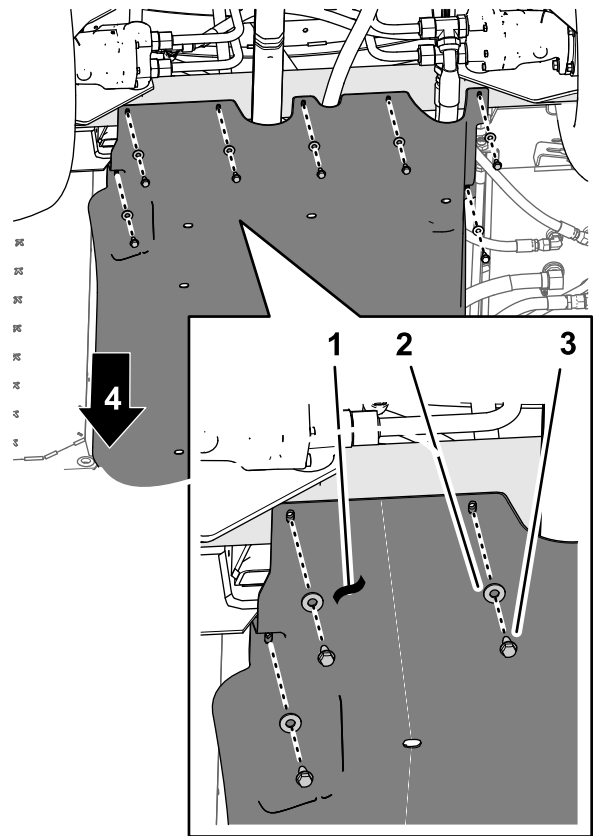
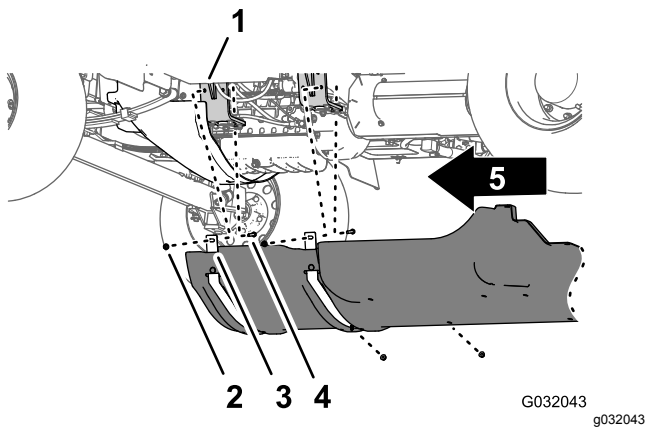

Figure 5
Figure 6
1. Remove the following hardware that secures the rear of the undercarriage shroud to the chassis of the machine (Figure 5):
2. Remove the 4 flange locknuts (5/16 inch) from the bolts and carriage bolts that secure the support straps of the undercarriage shroud to the engine-mount brackets of the machine (Figure 6).
4. Remove the undercarriage shroud from the machine (Figure 5 and Figure 6).